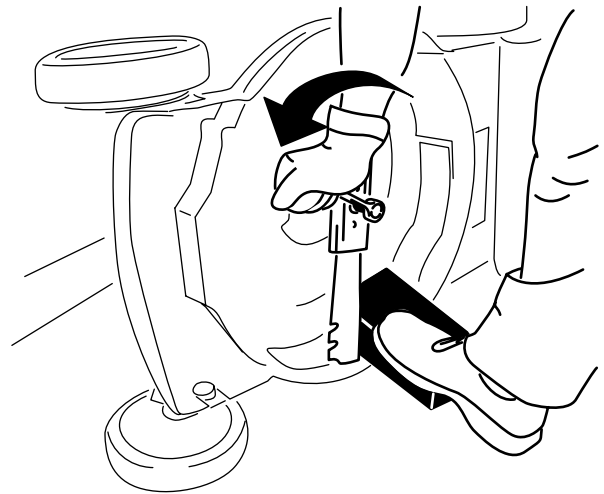

Figure 24
3. Use a block of wood to hold the blade steady (Figure 24).
4. Remove the blade, saving all mounting hardware (Figure 24).